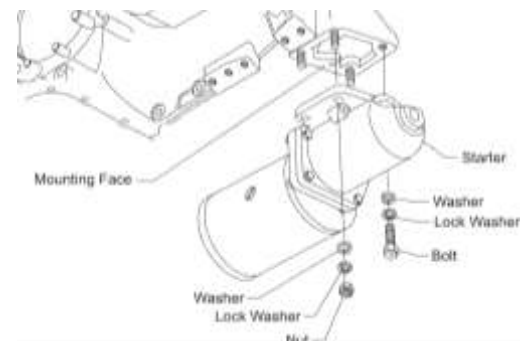

Figure 45
- (1) Disconnect the battery.
- (2) Remove electrical leads from the starter. Refer to the airframe manufacturer's manual.
- (3) Remove the bolt, lock washer, and washer from the starter (Figure 45). Discard the lock washer.
- (4) Hold the starter and remove the three nuts, lock washers, and washers from the studs on the mounting face for the starter. Discard the lock washers.
- (5) Remove the starter from the studs on the engine.